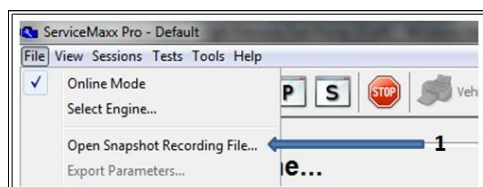

Figure 2: Opening a Recording in ServiceMaxx
1. In ServiceMaxx Select "File" then "Open Snapshot Recording File..." as shown in Figure 2